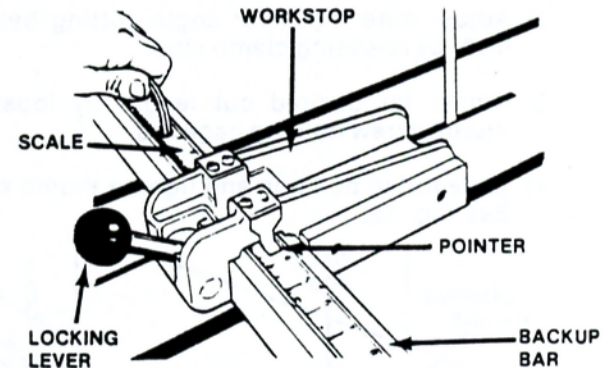

FIG. 33. UNIVERSAL CALIBRATED WORK FIXTURE SET UP FOR STRAIGHT CUT-OFF.
- (4) Close locking lever to hold workstop in position. Then adjust workstop pointer to line up with scale's zero mark. See Fig. 33.